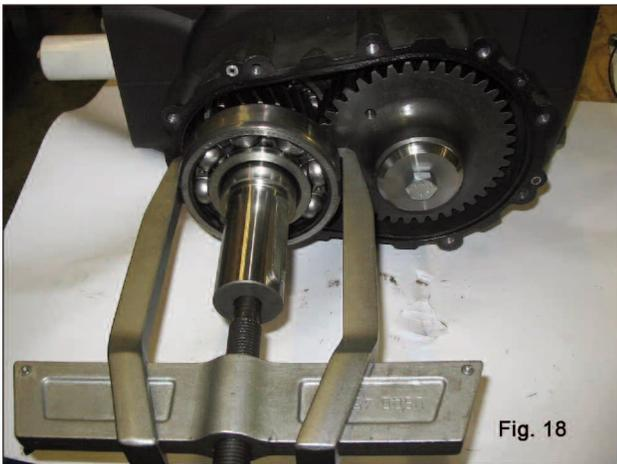

Fig. 18
- Remove the reduction gearbox cover and extract the bearing from the pinion with common tools (fig. 18).